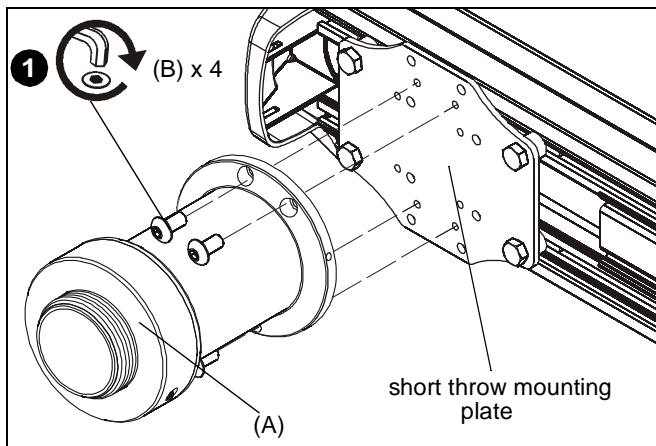

Figure 1
1. Use 1/8" hex key (D) and four #10-24 x 3/8" button head cap screws (B) to secure WMAH3 (A) to short throw projector mounting plate. (See Figure 1)